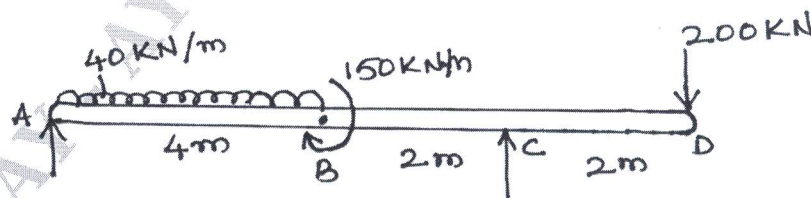

Fig.Q5(c)
- c. Draw the shear force and bending moment diagram for the beam shown Fig.Q5(c). Find the location of point of contraflexure and magnitude of maximum bending moment. (14 Marks)